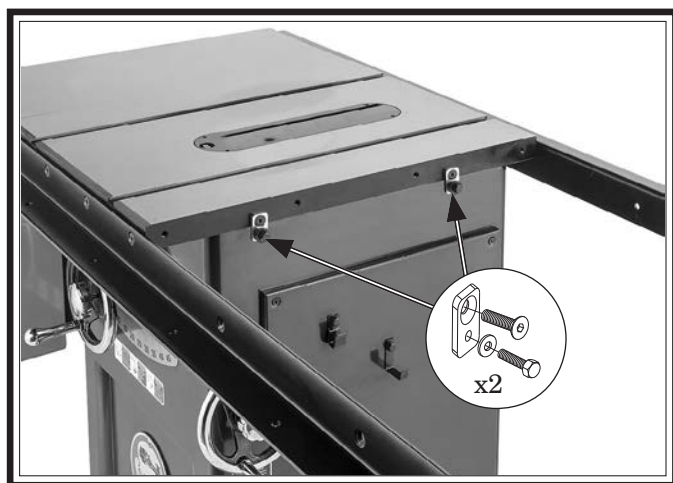

Figure 23. Extension table mounting clips installed.
1. Install (2) extension table mounting clips onto right side of main table using (2) M8-1.25 x 25 flat head cap screws, then thread (2) M8-1.25 x 12 hex bolts with (2) 8mm fender washers into lower holes in mounting clips as shown in **Figure 23**. Do not fully tighten hex bolts.